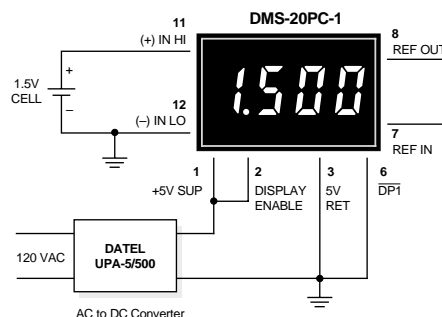

Figure 5. Floating Input Measurements
**4. Floating Signal Source Measurements:** Floating signals can be measured using the circuits shown in Figures 5 and 6. Connecting pin 10 (ANALOG COMMON) or pin 3 (5V RETURN)